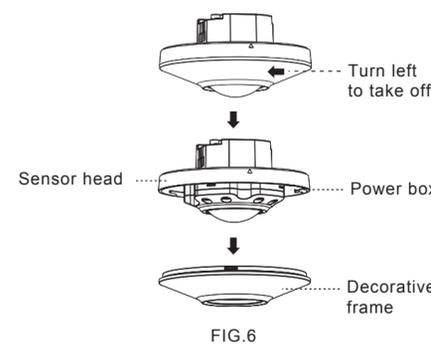

FIG.6
- 3.4.1.1 Take off decorative frame of 752DALIRC/752DALIS (See FIG.6).
3.4.1.4 Fix the decorative frame (See FIG.6).